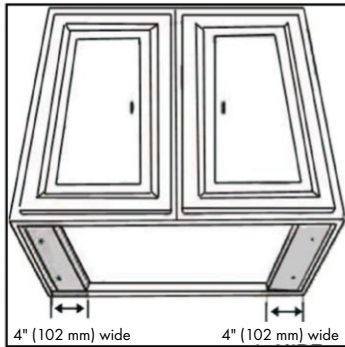

Figure 1
- If using Option 1 and installing under the cabinet with a recessed bottom, attach 4" (102 mm) wide wood filler strips (not provided) on each side. Refer to Figure 1 above.